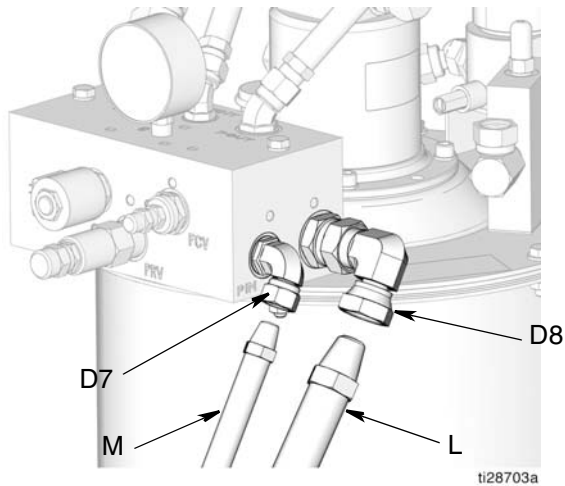

**FIG. 32**
17. Connect the pump tank line (D1), and the pump high pressure hydraulic line (D2) to the pump fittings as shown in FIG. 32. Use a wrench to tighten securely.
18. Connect the vent valve hydraulic control line (C3) to the vent valve as shown in FIG. 32.